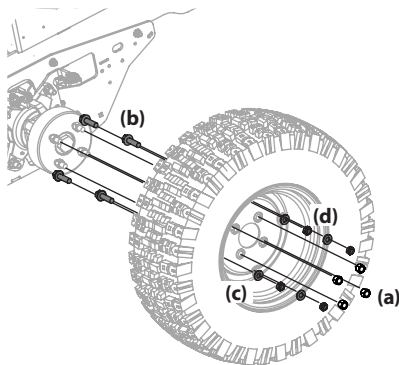

Figure 4-15
3. Remove the four lug nuts (a) to remove the inner tire. See Figure 4-15.
4. If replacing the inner tire, remove the four hex screws (b), washers (c) and jam nuts (d) that hold the mounting screws in place for the dual wheel adapter. See Figure 4-15.